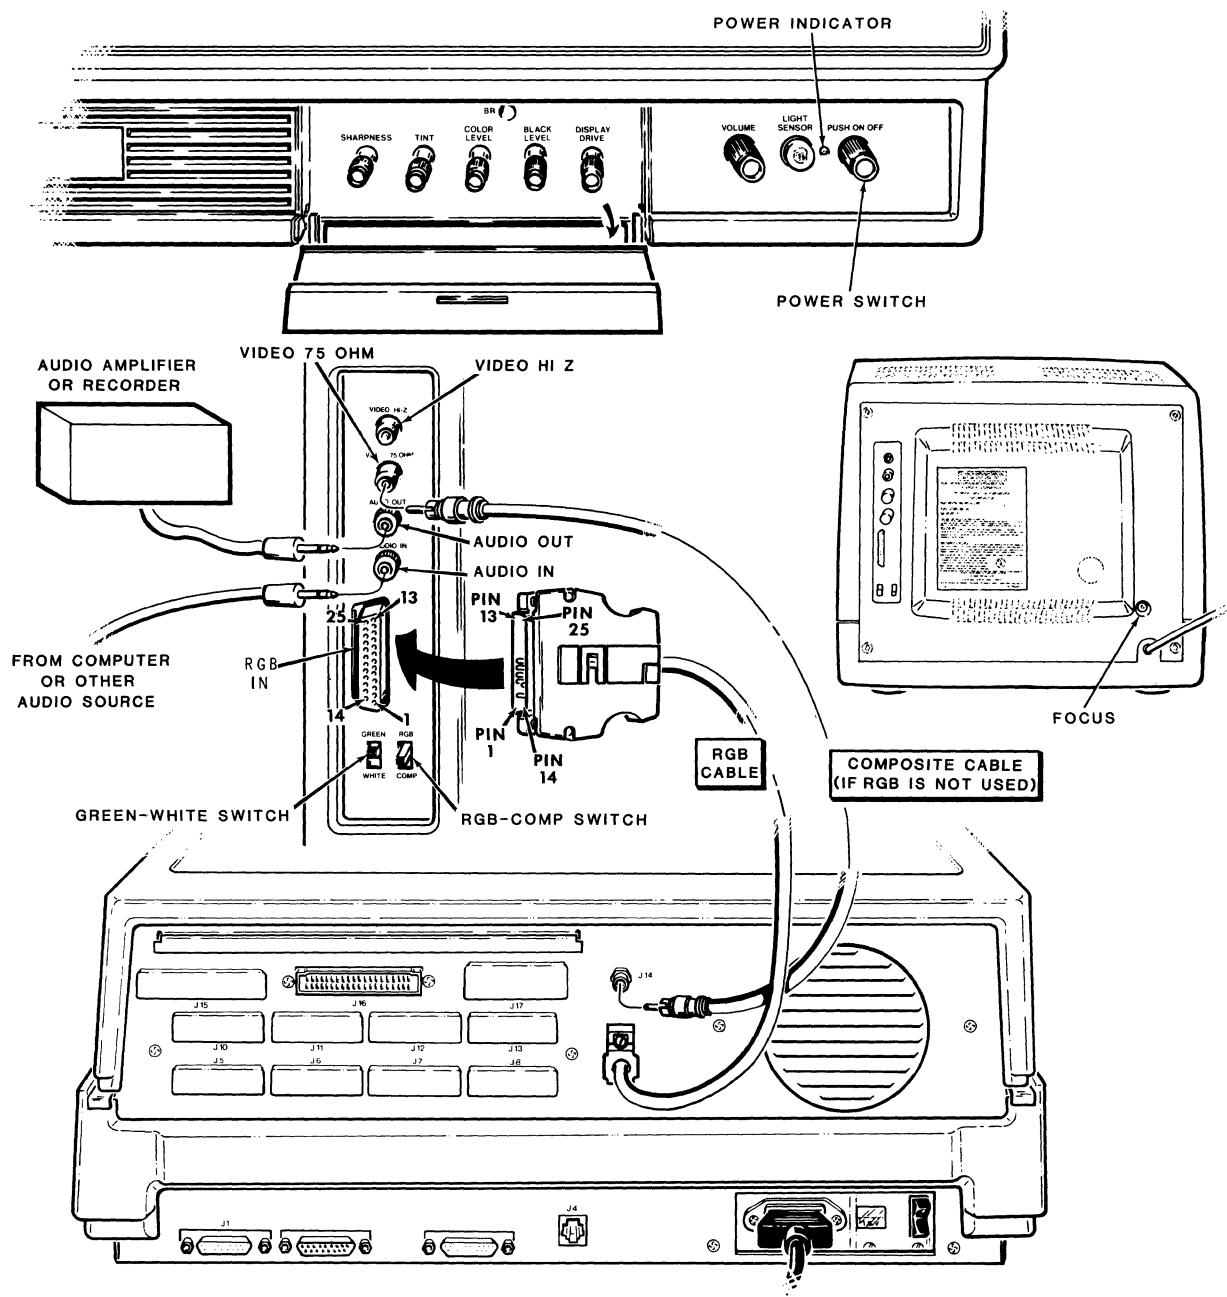

Figure 2
1. Connect applicable cables as shown in Figure 2.